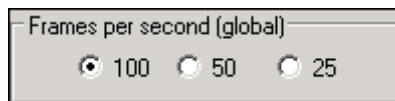

Fig. 59 "Frames per second" group field on the "LAN cameras" tab
3. Select the option with the desired frame rate (see Fig. 59).